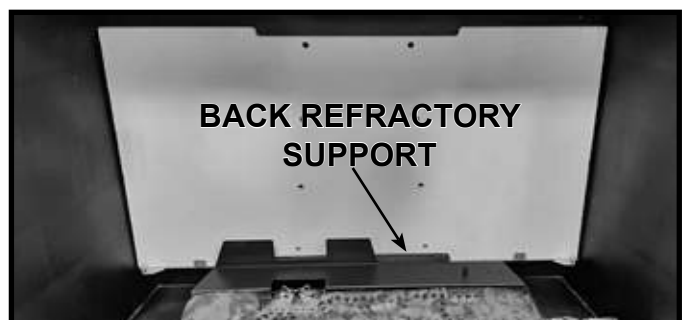

Figure 11.15 Back Insulation Board Installed
5. Install back insulation board by positioning it at the rear of the firebox and behind the refractory support tabs as shown in Figure 11.15.